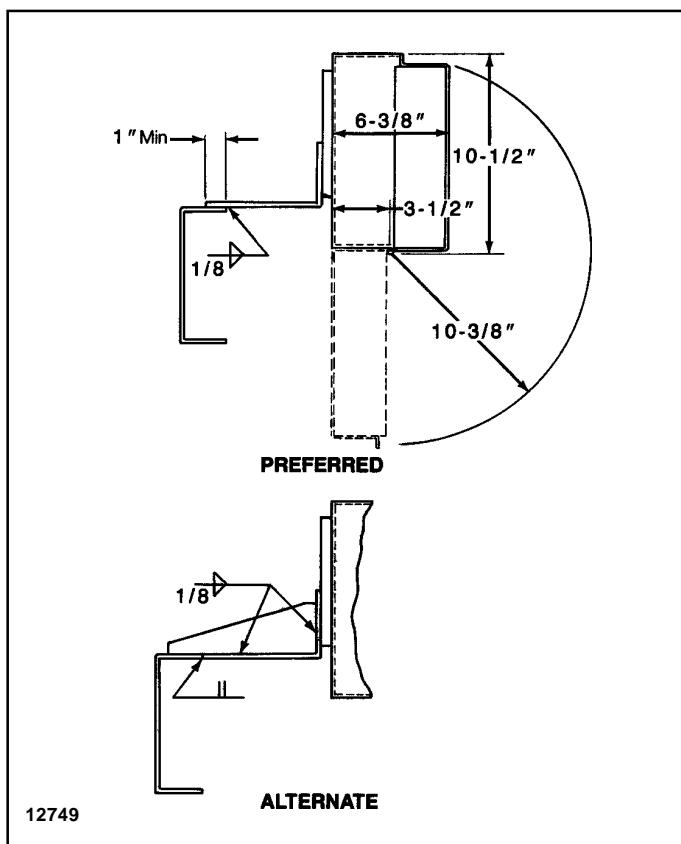

Figure 9.
11. The electrical enclosure is shown mounted on the inside of the truck over the gear reducer in Figure 17. The connecting bracket may be mounted in any of 3 vertical locations on the enclosure bracket when oriented as shown. It may also be rotated 180° (out standing leg at top) giving 3 additional positions. The enclosure bracket may also be adjusted horizontally on the enclosure. The connecting bracket may be welded to a truck or to the girder. If the bracket rests on the supporting member, a 1" minimum overlap is required. Weld as shown in Figure 9. If the bracket is to be supported by weld at the toe only, a stiffener plate must be furnished by the crane bridge fabricator. Weld as shown in the alternate view in Figure 9.
5. The electrical enclosure is shown mounted on the inside of the truck over the gear reducer in Figure 17. The connecting bracket may be mounted in any of 3 vertical locations on the enclosure bracket when oriented as shown. It may also be rotated 180° (outstanding leg at top) giving 3 additional positions. The enclosure bracket may also be adjusted horizontally on the enclosure. The connecting bracket may be welded to a truck or to the girder. If the bracket rests on the supporting member, a 1" minimum overlap is required. Weld as shown in Figure 9. If the bracket is to be supported by weld at the toe only, a stiffener plate must be furnished by the crane bridge fabricator. Weld as shown in the alternate view in Figure 9.